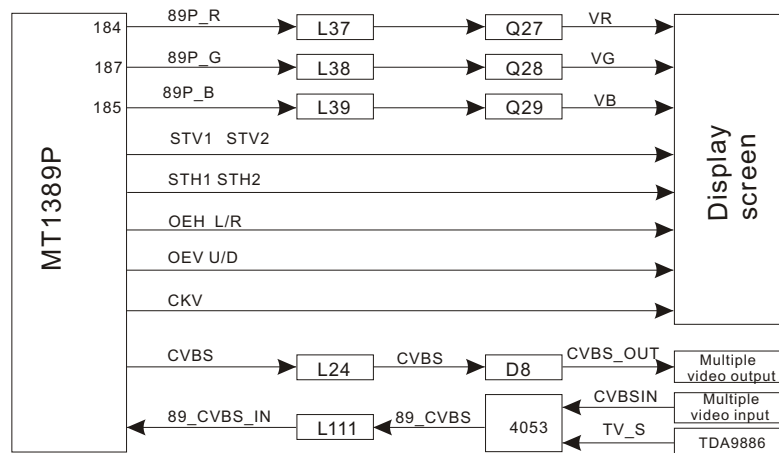

Figure 3.2.3.1 Block diagram of audio circuit
1.MT1389P built-in Video decoder is able to output analog/digital audio signal. The amplified signal can output to terminal . Block diagram of Video circuit is shown in figure 3.2.3.1: